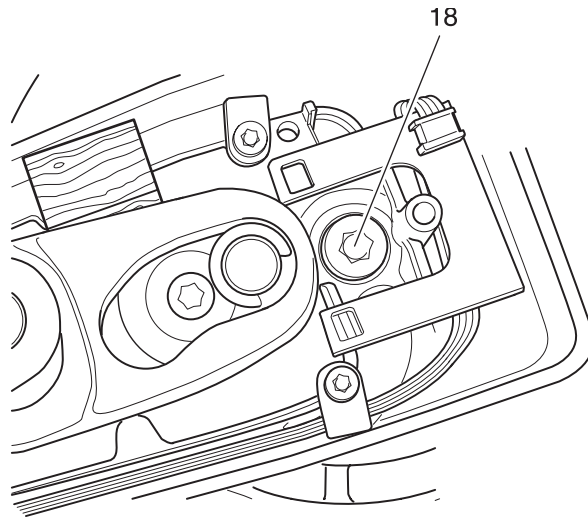

Fig. 5d
- Switch on the steam ironer, allow crank to advance beyond the lift position, until it reaches the position in the guide, which is shown in fig. 5d.